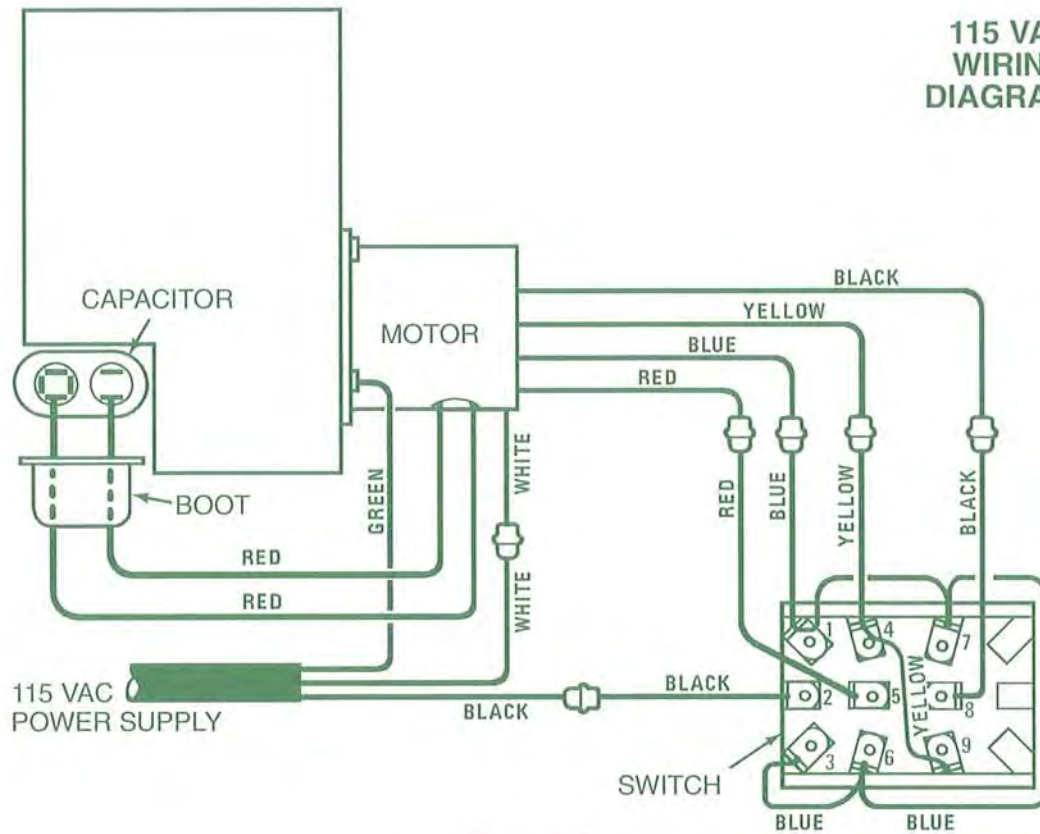
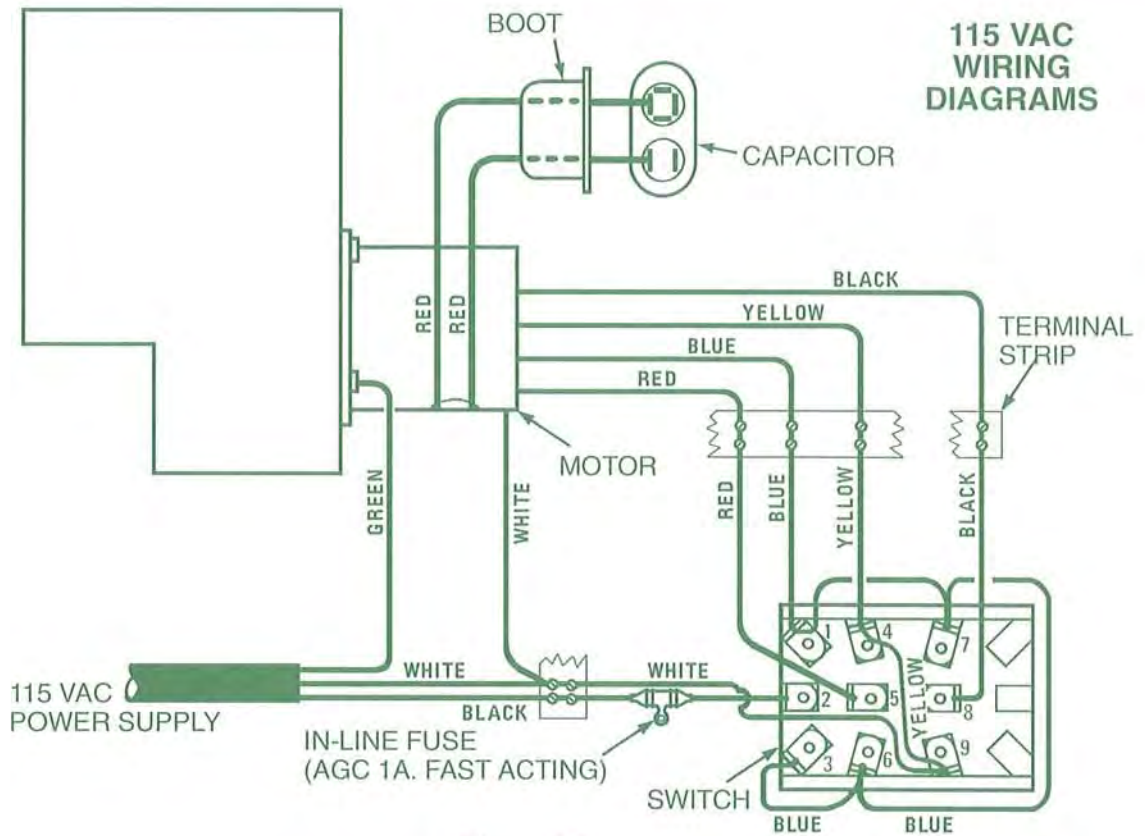
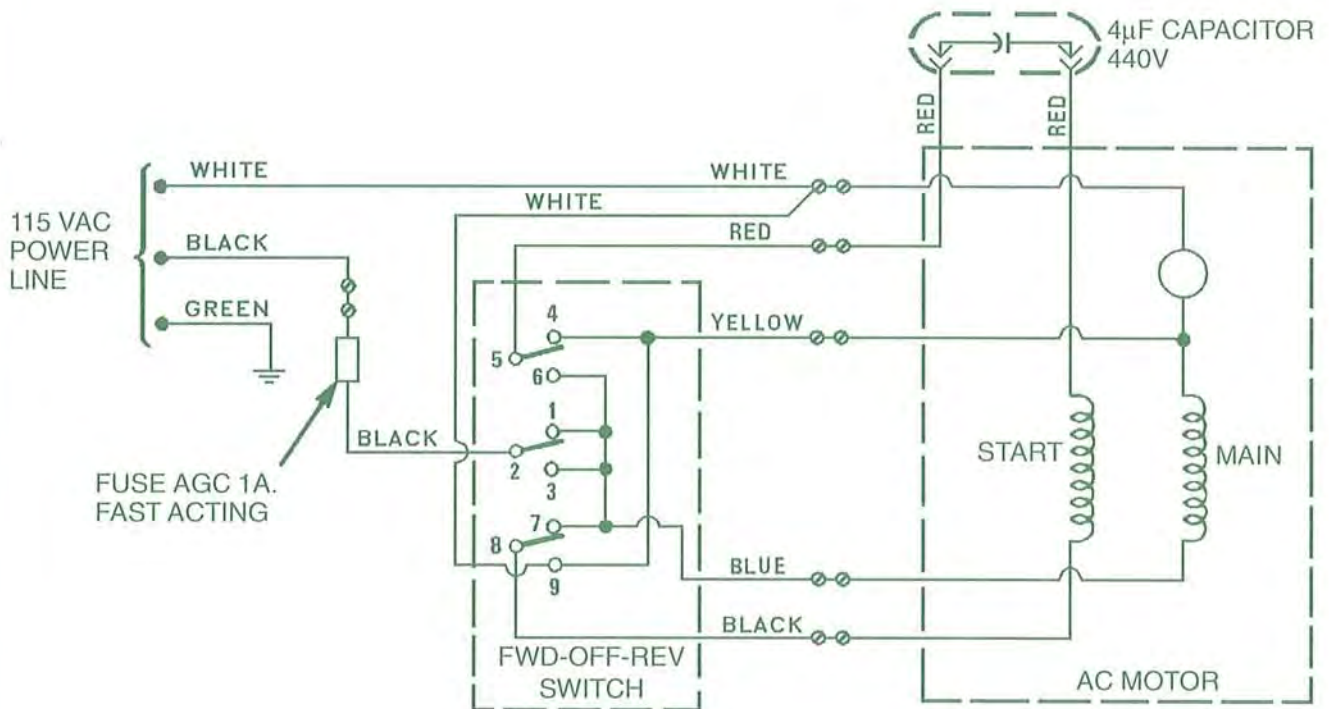

Figure 3-3.
Figure 3-5.
Figure 3-6.
*See Wiring Diagrams, Figure 3-3, Figure 3-6, and Figure 5-3.
4. Disconnect the black and white power line leads and the green groundwire (See Figure 3-3 or 3-4 for VCM-200) (see Figure 3-5 or 3-6 for VCM-200HT).
4. Disconnect the five switch leads. Four of these are the red, blue, yellow and black motor leads. The fifth switch lead is the black line from the power cord (See Figure 3-3).